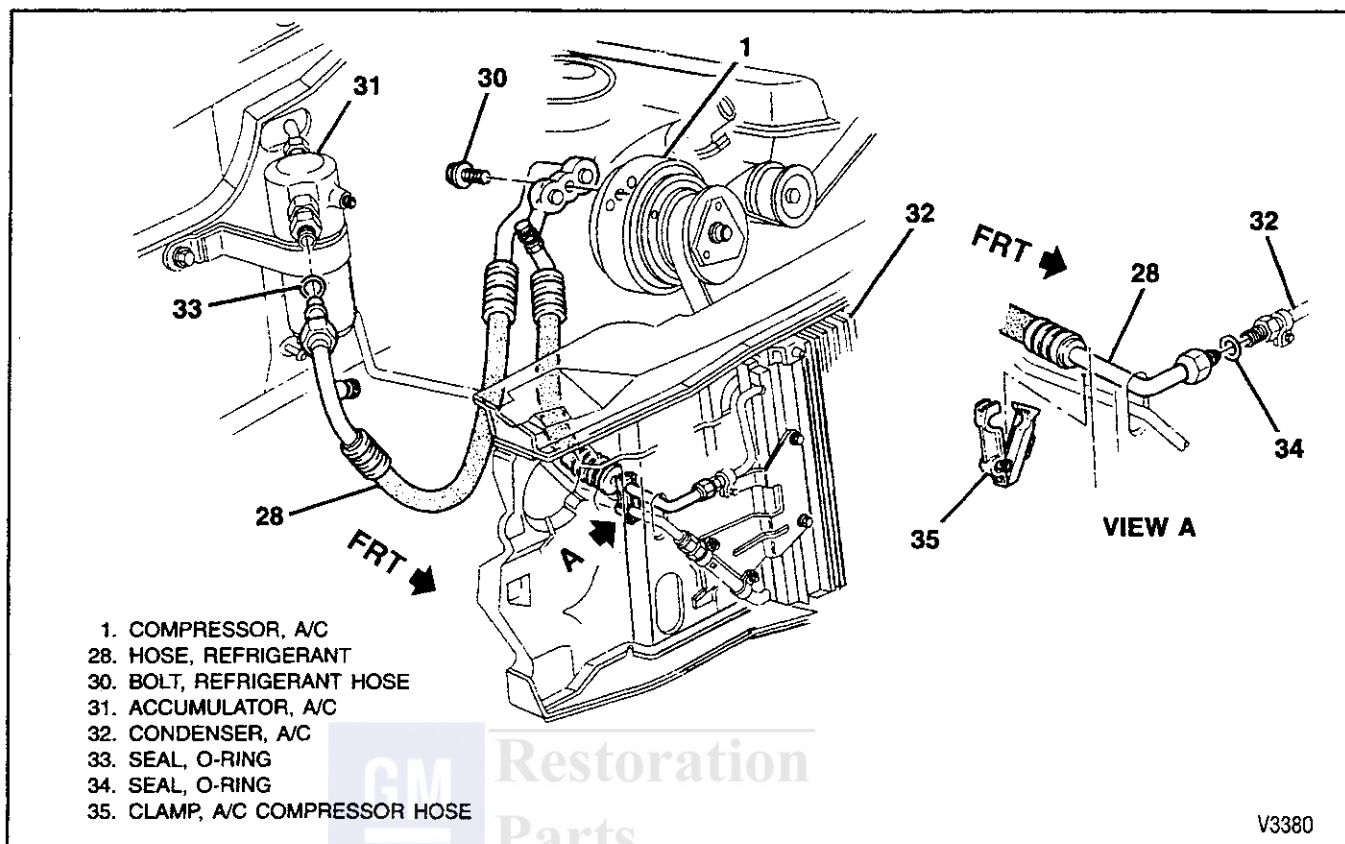

Figure 26—Compressor and Condenser Hose Assembly
- Pickup/Extended Cab Models (4.3L, 5.0L, 5.7L, and 7.4L Engines): refer to figure 26.
- All Models (6.5L Diesel Engines): refer to figure 26.
- Suburban/Crew Cab Models (7.4L Engines w/o Aux. Heater or A/C): refer to figure 26.
**Remove or Disconnect (Figures 26, 27, and 28)**
4. Bolt (30).
5. Hose assembly (28) from rear of the compressor (1).
7. Hose assembly (28) from accumulator (31).
8. O-ring seal (33).
9. Hose assembly (28) from condenser (32).
10. O-ring seal (34).
**→** Install or Connect (Figures 26, 27, and 28)